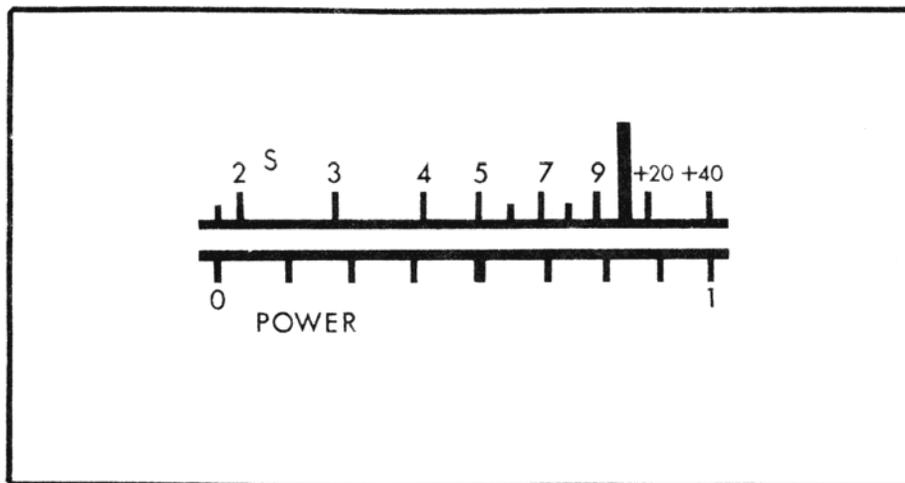

Figure 4-4 Meter Dial
5. Adjust the generator output for an approximate mid-scale indication (5) on the "S" meter. See Figure 4-4.
5. Set R402 for a reading of S9 on the "S" meter,. See Figure 4-4.
4. With the P-T-T button depressed, adjust R403 for the same reading on the meter RF scale as on the wattmeter. Refer to Figure 4-4. Note that the heavy mark in the approximate center of the lower scale is 4 watts.